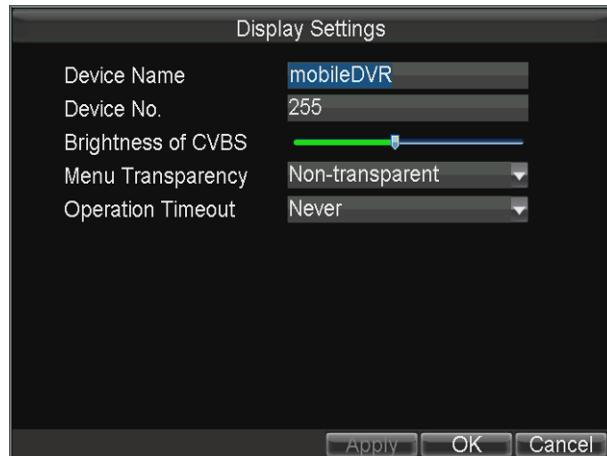

Figure 2.5 Advanced Display Settings Interface
4. Click the **Set** button for **Advance Setting** to enter the advanced display settings interface, as shown in Figure 2.5.